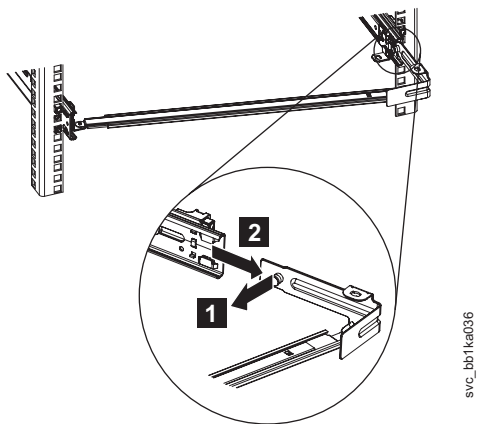

Figure 13. Freeing the swing end of the SAN Volume Controller 2145-CF8 support arm
7. To free the swing end of the support arm from the backside of the slide rail, push the blue latch on the cable-support-arm stop bracket on the right rail to open the cable-management arm, pivoting the arm on the left rail, as shown by **1** in Figure 13, and then slide the bracket **2** from the slide rail.